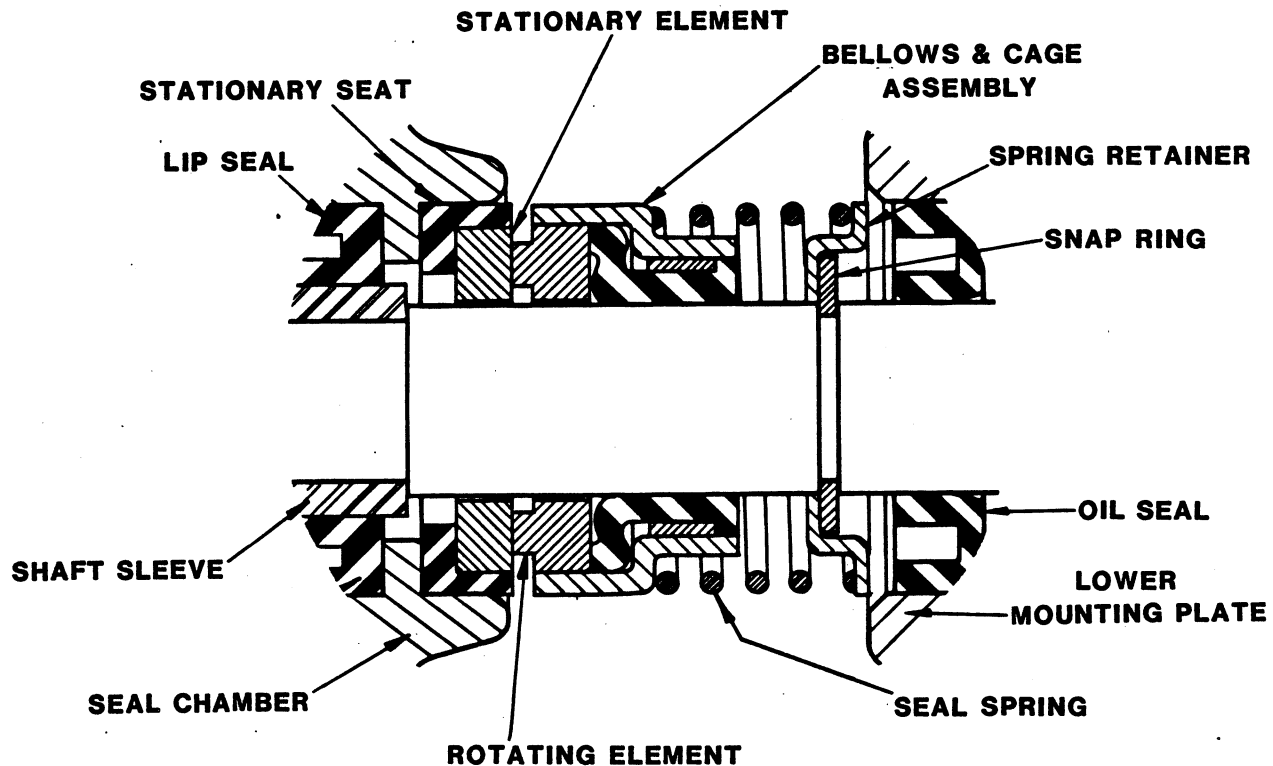

Figure 2. Seal Assembly 26815-110
To ease installation of the seal, lubricate the stationary seat, with water or a very **small** amount of oil, and apply a drop of lubricating oil on the finished faces. Assemble the seal as follows (see Figure 2).
Install the oil seal (94) in the mounting plate with the lip positioned as shown in Figures 2 and 3.
Install the shaft sleeve (96) and the lip seal (95) with the lip positioned as shown in Figure 2.